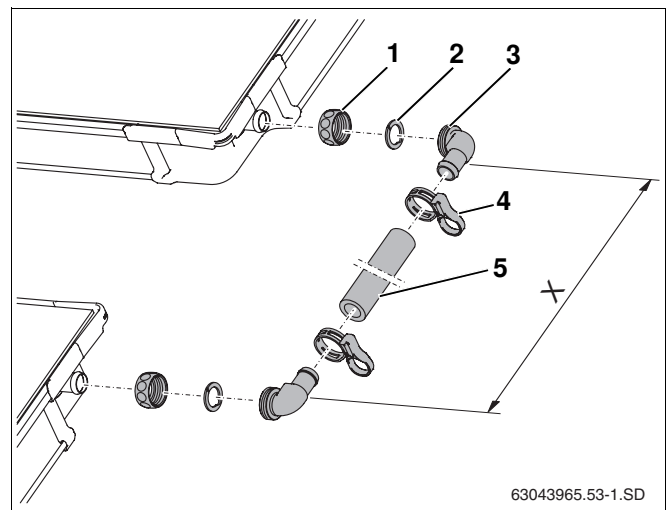

Fig. 60 Connection set between two collector rows
- Push union nut (Fig. 60, **Item 1**) over the collector connections.
- Place the clamping disc (Fig. 60, **Item 2**) behind the bead on the collector connection and press together.
- Press angled nozzle with O-ring (Fig. 60, **Item 3**) onto connection, align and bolt together with union nut.
- Measure distance between the angled nozzles (dim. X) once the collectors are installed, and cut the solar hose (Fig. 60, **Item 5**) to size accordingly.
- Attach solar hose to the angled nozzles and secure using hose clips (Fig. 60, **Item 4**).